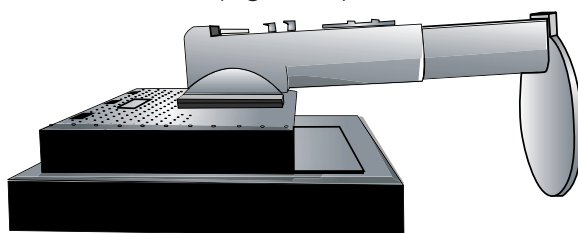

Figure S.1
4. Place monitor face down on a non-abrasive surface (**Figure S.1**).